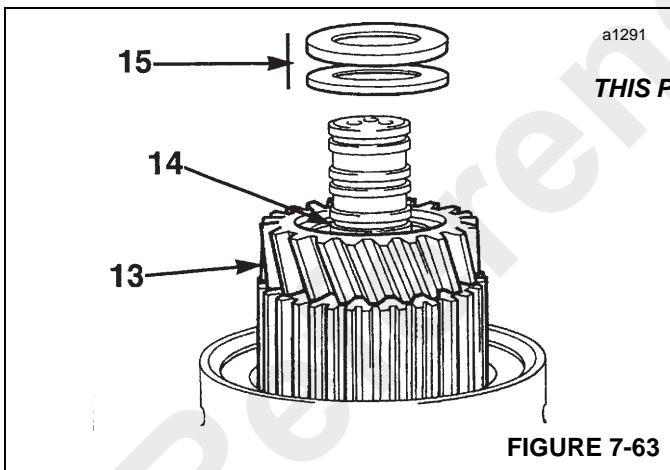

FIGURE 7-63
13. Install gear and splined hub assembly (13, Figure 7-63).